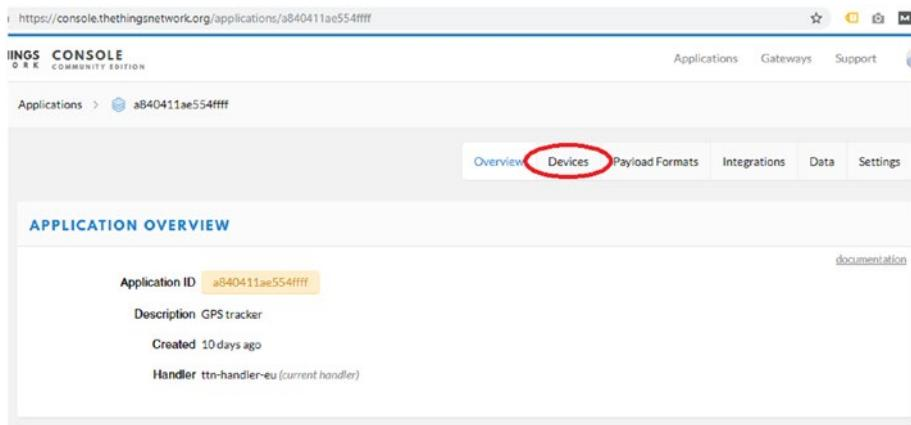

Figure 8-45. Accessing devices
3. Click Devices (Figure 8-45).